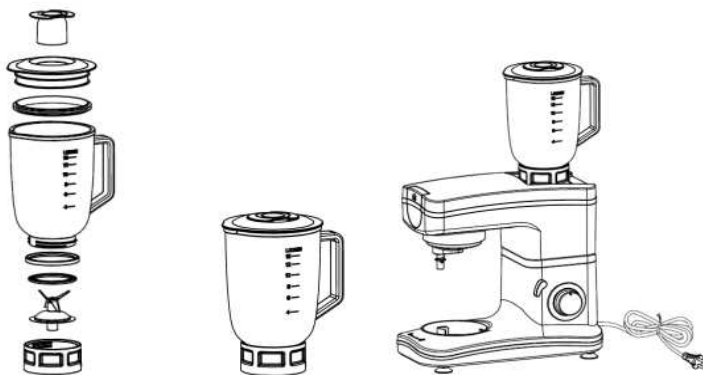

Fig 8
1. Assemble blender in this order: plastic ring, seal ring, blades, blades support onto the glass carafe and turn counter-clockwise firmly (Fig.8)